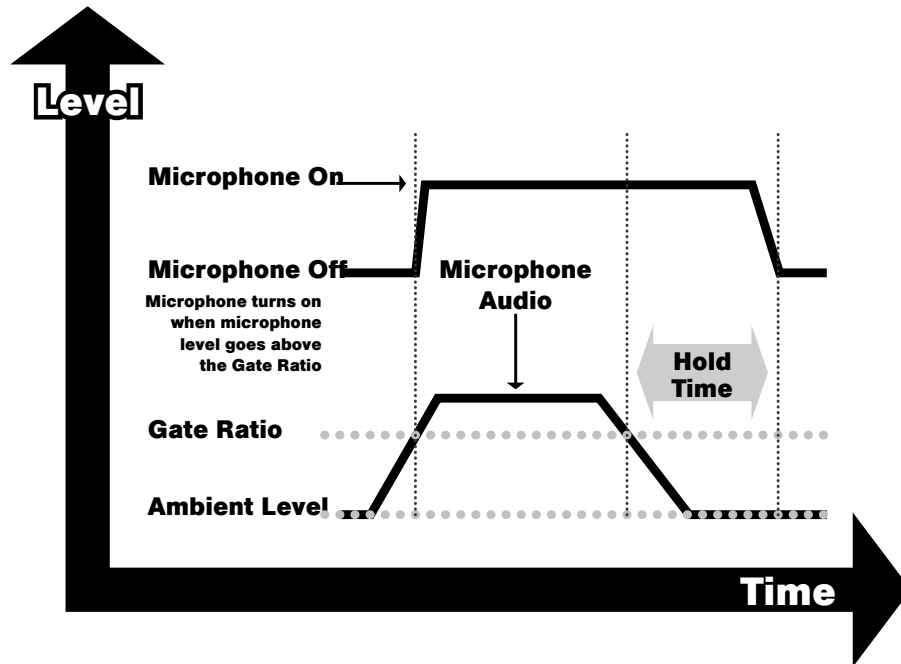

Figure 29. PSR1212 Automixing Gate Functions
- **PA Adaptive (On or Off).** The problem: Speaker audio gates on microphones when it shouldn't. The solution: PA adaptive knows when speaker channels are activated and prevents the speakers from gating the mics on. As shown in Figure 29, the reason the PSR1212 can accurately determine when speaker audio is present is because audio goes through the PSR1212 a few milliseconds before it reaches the microphone.
- **Last Mic On/Mic 1-8/Off.** Last Mic On leaves the last activated mic on until a new one is activated. Mic 1-8 mode reverts back to Mic 1-8 On when all other mics gate off. These features are useful to ensure the audio never goes completely away (see Figure 29). Without it, you might even think that you have lost connection to the other room. You can set this parameter to Off, which disables this function.